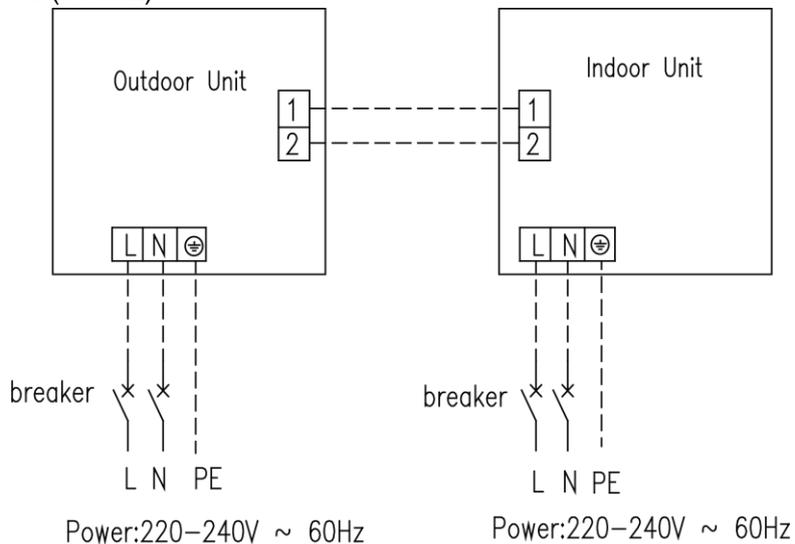

Figure 3-4-4
①	The power cord and the wire of the fresh air valve are high-voltage, while the communication cord and connection wire of the wired controller are low-voltage. They should run separately against electromagnetic interference.
②	The high-voltage and low-voltage lines should pass through the rubber rings at different electric box covers.
③	Do not bundle the connection wire of the wired controller and the communication cord together, or arrange them in parallel, otherwise improper operation would occur.
④	The high-voltage and low-voltage lines should be fixed separately and securely, with internal big clamps for the former and small clamps for the latter.
⑤	Tighten the indoor/outdoor connection cord and power cord respectively on the terminal boards with screws. Faulty connection may cause a fire.
⑥	If the indoor unit connection cord (to the outdoor unit) and power supply are wired incorrectly, the air conditioner may be damaged.
⑦	Connect the indoor unit connection cord properly based on the corresponding marks as shown in Figure 3-4-4.
⑧	Ground both the indoor and outdoor units by attaching a ground wire.
⑨	Unit shall be grounded in compliance with the applicable local and national codes.
(6) Electric wiring of outdoor unit side